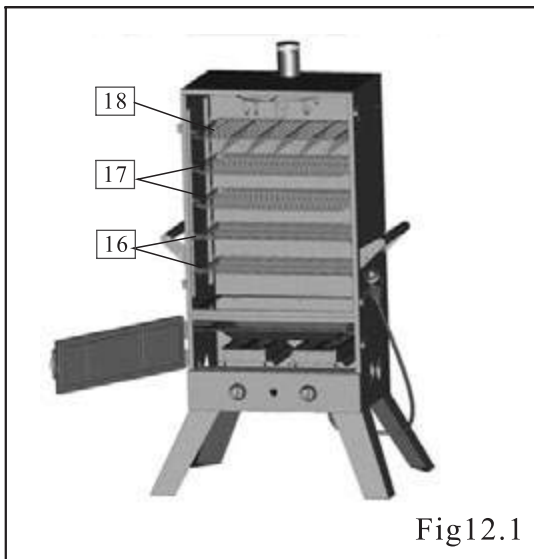

Fig12.1
*Locate:* Sausage hanger(19), combo cooking grid and rib racks (18), cooking racks(17), jerky racks(16)
*Procedure:* Place the sausage hanger on the top of the smoker and slide it into the hanger support. Then put one combo cooking grid and rib rack, two cooking racks and two jerky racks into the cooking grid supports. Fig 12.1